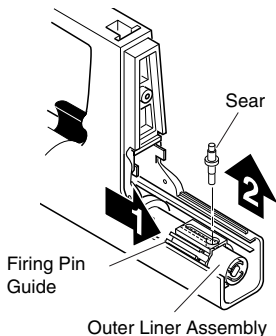

Figure 8 - Removing Sear
2. Pull the sear out of the aligned holes (see Figure 8).